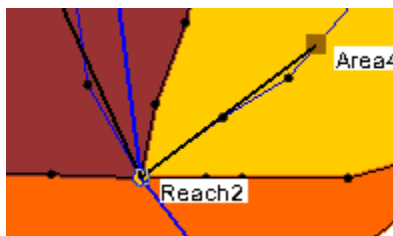

Figure 4 Reach2 outlet
1. Using the **Select outlet**  tool, double-click on the “Reach2” outlet ( Figure 4) to bring up the *Edit TR-20 Parameters* dialog.